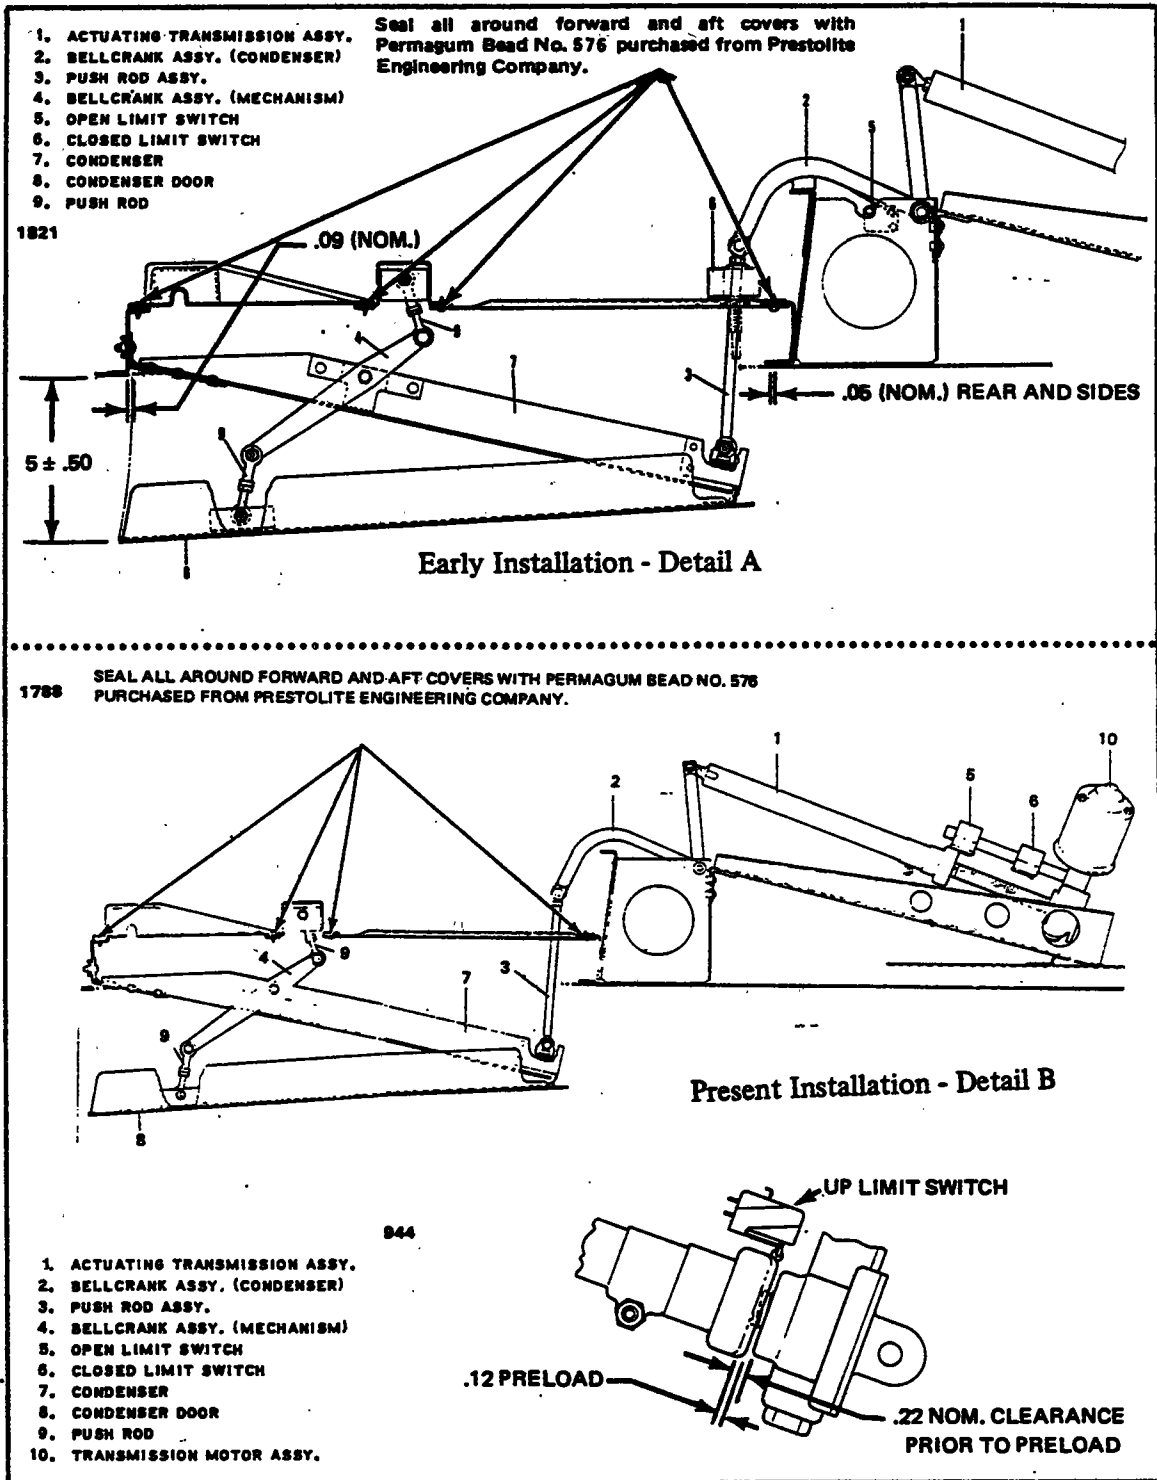

Figure 14-12. Condenser Air Scoop Installation
- b. Place the condenser and frame assembly to the fuselage frame mounting bracket and insert the (8) screws into the piano hinge.
- f. Seal all around forward cover panel (and aft cover panel if removed) with Permagum Bead No. 576 purchased from Prestolite Engineering Company. (See Figure 14-12.)
14-34. CONDENSER DOOR ACTUATOR. The actuator is on a bracket mounted between two bulkheads in the tail cone. It is coupled to the condenser assembly through a bellcrank mounted to a bracket on the bulkhead aft of the condenser. The actuator travel is controlled by two limit switches. On early installations the down switch is located on the inboard bellcrank support and the up switch on the condenser frame. On later installations both the up and down switches are located on the actuator. Refer to Figure 14-12 for the switch locations of the particular installation.
14-35. CONDENSER ASSEMBLY RIGGING INSTRUCTIONS. (Refer to Figure 14-12.)
There are two installations of this system. The first or early installation had the limit switches located as shown in Figure 14-12, Detail A. The second or present installation has the limit switches located as shown in Figure 14-12, Detail B. The instructions covering the adjustment of the limit switches will be covered in separate steps.
Early Installations: (Refer to Figure 14-12, Detail A.)
Present Installations: (Refer to Figure 14-12, Detail B.)
a. Adjust open limit switch (5) to open the condenser door (8) 5.00 + .50 inches when measured from the leading edge of the door to the fuselage skin.
b. Adjust the push rods (9) so that a vertically measured gap of .16 of an inch exists along the trailing edge of the door at the instant the forward edge of the door becomes flush with the fuselage skin.
c. With the door fully closed adjust the "CLOSED" (6) limit switch so that the actuator (1) travels an additional .12 of an inch after the door is fully closed, this is necessary to preload the mechanism. Refer to Figure 14-12, Detail B - View AA.